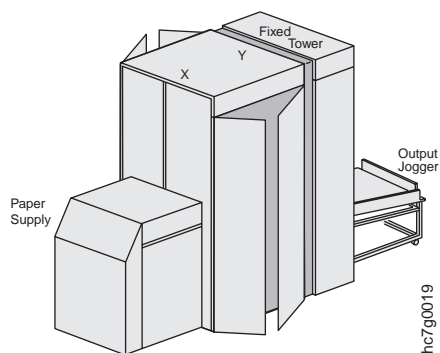

Figure 320. Right Side View of the InfoPrint Color 100
2. Open the doors on both sides of the X and Y towers, as shown in Figure 320.